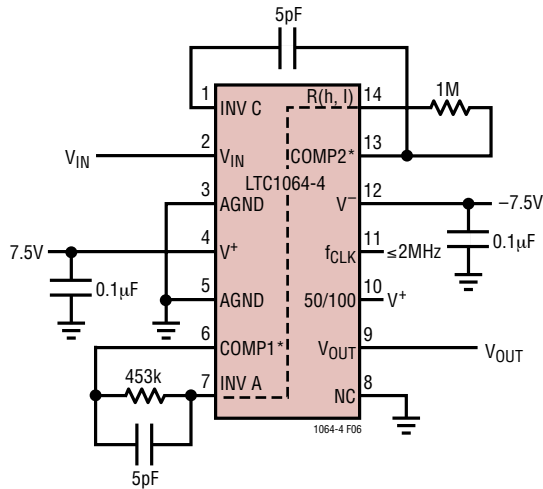
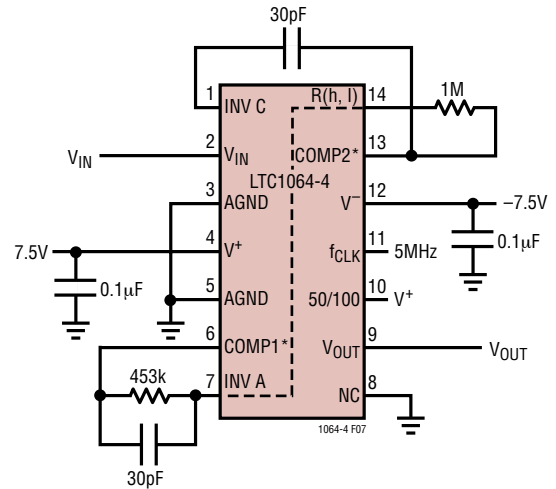

Figure 6. Compensating LTC1064-4 for Passband Ripple of  $\pm 0.1\text{dB}$  and  $f_{\text{CUTOFF}}$  Sweeps to 40kHz.
Figure 7. Compensating LTC1064-4 for  $f_{\text{CUTOFF}} = 100\text{kHz}$ , Gain at  $f_{\text{CUTOFF}} = -1.3\text{dB}$ , Table 8.
**Table 8. Gain/Phase for Figure 7.**
**Table 9. Gain/Phase for Figure 7.**
**INV C, COMP1, INV A, COMP2 (Pins 1, 6, 7 and 13):** To obtain a Cauer response with minimum passband ripple and cutoff frequencies above 20kHz, compensating components are required. Figure 6 uses  $\pm 7.5V$  power supplies and compensation components to achieve up to 40kHz *sweepable* cutoff frequencies and  $\pm 0.1dB$  passband ripple. Table 7 lists the typical amplitude response of Figure 6. Figure 7 illustrates the compensation scheme required to obtain a 100kHz cutoff frequency; Graph 4 and Tables 8 and 9 list the typical response of Figure 7 for 25°C and 125°C ambient temperature. As shown the ripple increases at high temperatures but still a  $\pm 0.25dB$  figure can be obtained for ambient temperatures below 70°C.